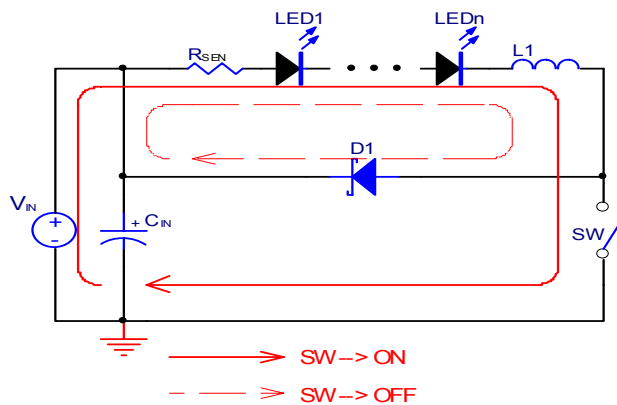

Figure 11. Power loop of MBI6651
10. When SW is ON/OFF, the direction of power loop should keep the same way to enhance the efficiency. The sketch is shown as Figure 11.